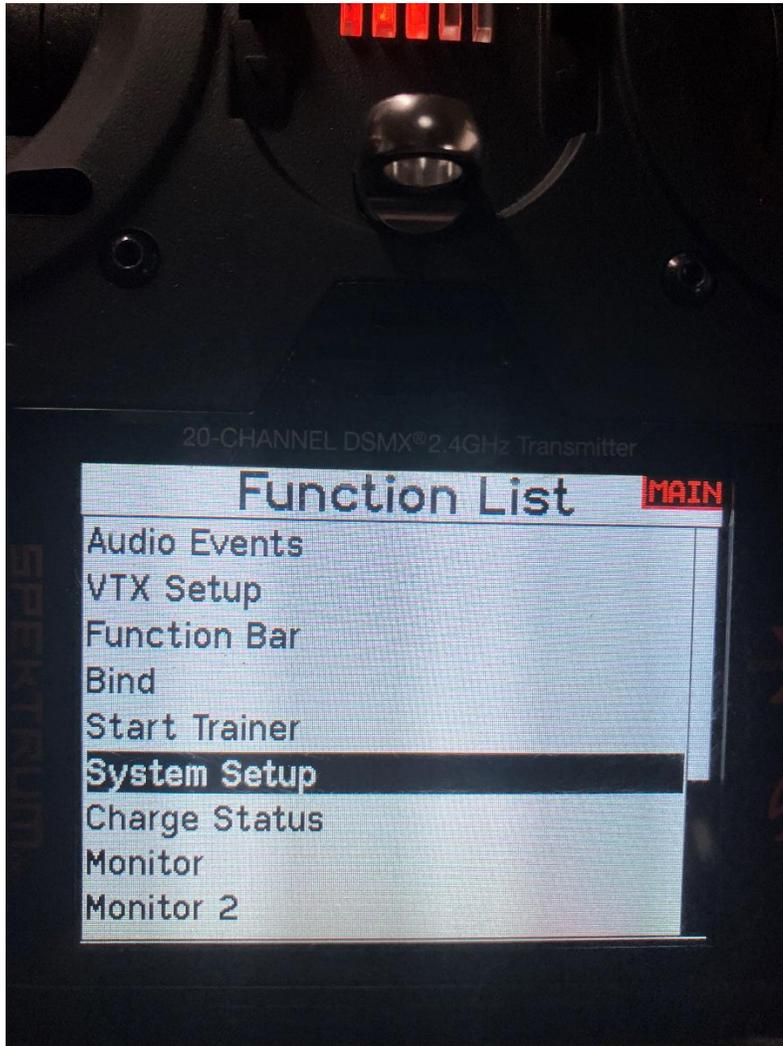

Figure 1. Function List
- a. Turn on the NX8+ transmitter. When the main page is displayed press the scroll wheel and you should see the **Function List** screen. Scroll down to the option **System Setup**. *Figure 1. Function List* shows the **System Setup** option is highlighted. Now click it.